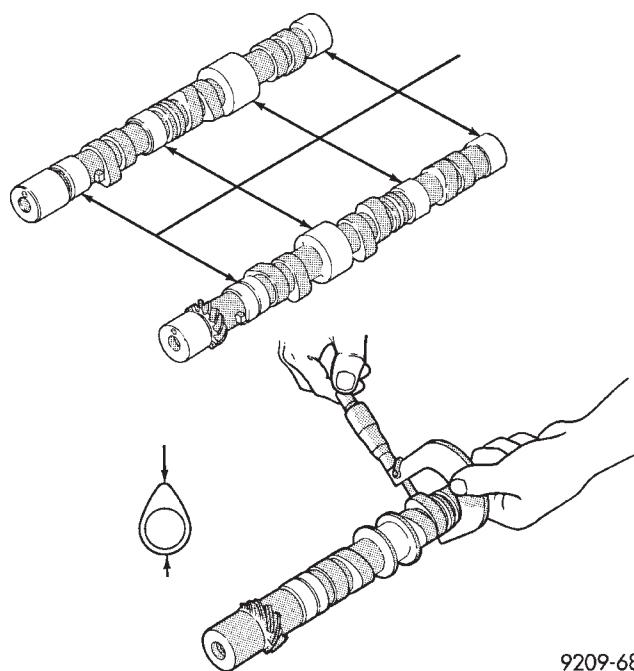

Fig. 5 Check Camshafts
- (1) Inspect camshaft bearing journals for damage and binding (Fig. 5). If journals are binding, also check the cylinder head for damage (Fig. 1). Also check cylinder head oil holes for clogging.
- (2) Front cylinder head camshaft check the tooth surface of the distributor drive gear teeth of the camshaft and replace if abnormal wear is evident (Fig. 5).
- (3) Check the cam surface for abnormal wear and damage and replace if defective. Also measure the cam height (Fig. 5) and replace if out of limit, standard value is 41.25 mm (1.624 inch), wear **limit** is 40.75 mm (1.604 inch).